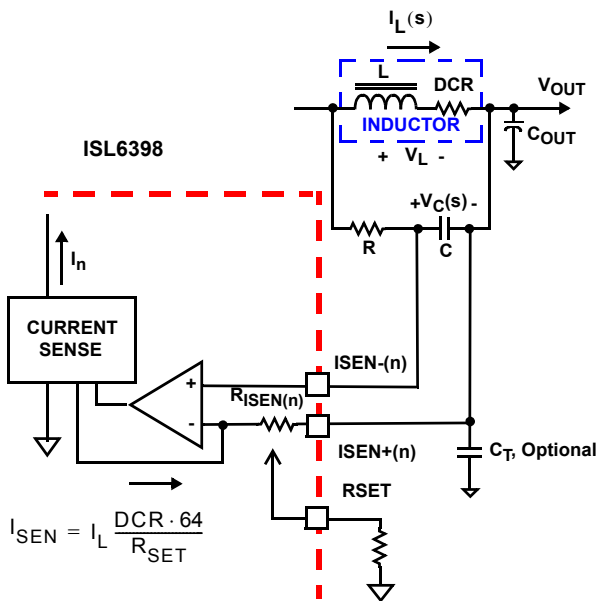

FIGURE 4. DCR SENSING CONFIGURATION
The internal circuitry, shown in Figures 4 and 5, represents one channel of the VR output, respectively. The ISEN± circuitry is repeated for each channel, but may not be active depending on the status of the PWM[6:2] pins, as described in “PWM Operation” on page 17. The input bias current of the current sensing amplifier is typically 25nA; less than 8kΩ input impedance is preferred to minimized the offset error, i.e., a larger C value as needed.
An inductor’s winding is characteristic of a distributed resistance, as measured by the Direct Current Resistance (DCR) parameter. Consider the inductor DCR as a separate lumped quantity, as shown in Figure 4. The channel current  $I_L$ , flowing through the inductor, will also pass through the DCR. Equation 4 shows the S-domain equivalent voltage across the inductor  $V_L$ .
A simple R-C network across the inductor extracts the DCR voltage, as shown in Figure 4.
The current sense circuitry operates in a very similar manner for negative current feedback, where inductor current is flowing from the output of the regulator to the PHASE node, opposite of flow pictured in Figures 4 and 5. However, the range of proper operation with negative current sensing has a limitation. The worst-case peak-to-peak inductor ripple current should be kept less than 80% of the OCP trip point ( $\sim 80\mu A$ ). Care should be taken to avoid operation with negative current feedback exceeding this threshold, as this may lead to momentary loss of current balance between phases and disruption of normal circuit operation. Note that the negative current can especially affect coupled inductor designs, where the effective inductance is the leakage between the two channels, much lower than the specified mutual inductance (LM) and self inductance (L). To limit the impact, a higher  $R_{SET}$  value ( $1.5x$  to  $2x$ ) is often used to reduce the effective negative current seen by the controller in coupled inductor designs.